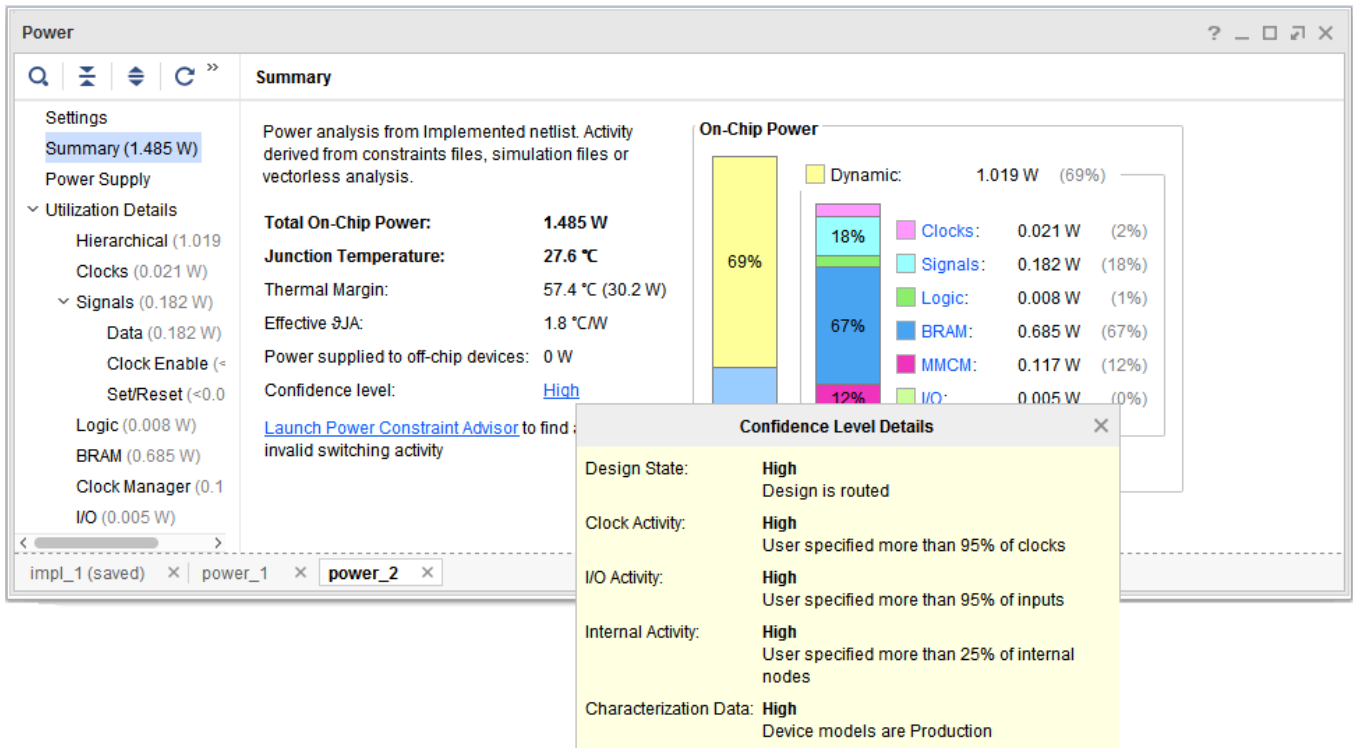

Figure 40: Confidence Level for Power Analysis with SAIF Input (power_2)
- In the **Summary** view of the **power_2** report (the report generated by the analysis for which you specified a SAIF file as input), click on **Confidence level (High in Figure 40)**.